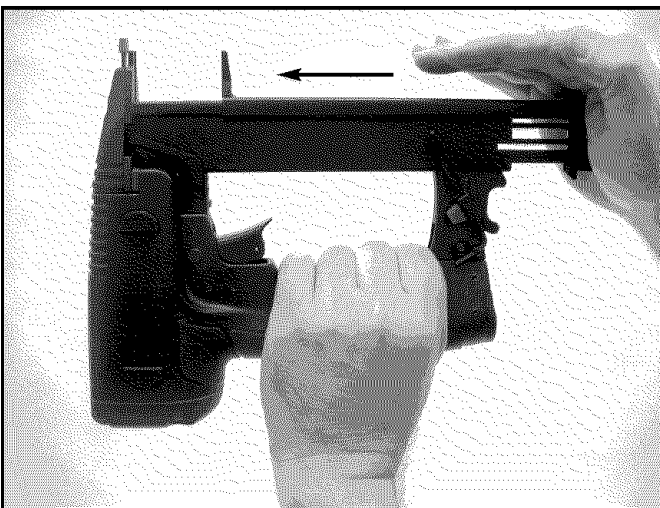

Figure 4 - Close Magazine
- Slide magazine cover forward over magazine until latch snaps into place, locking magazine cover (see Figure 4).